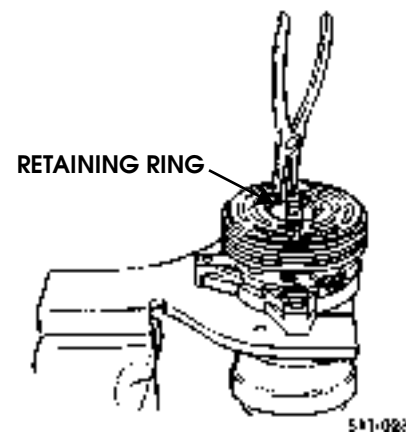

Figure 11-47: Seal Retaining Ring
- Using snapping pliers, install new seal retaining ring with its flat side against the seal (Figure 11-47).